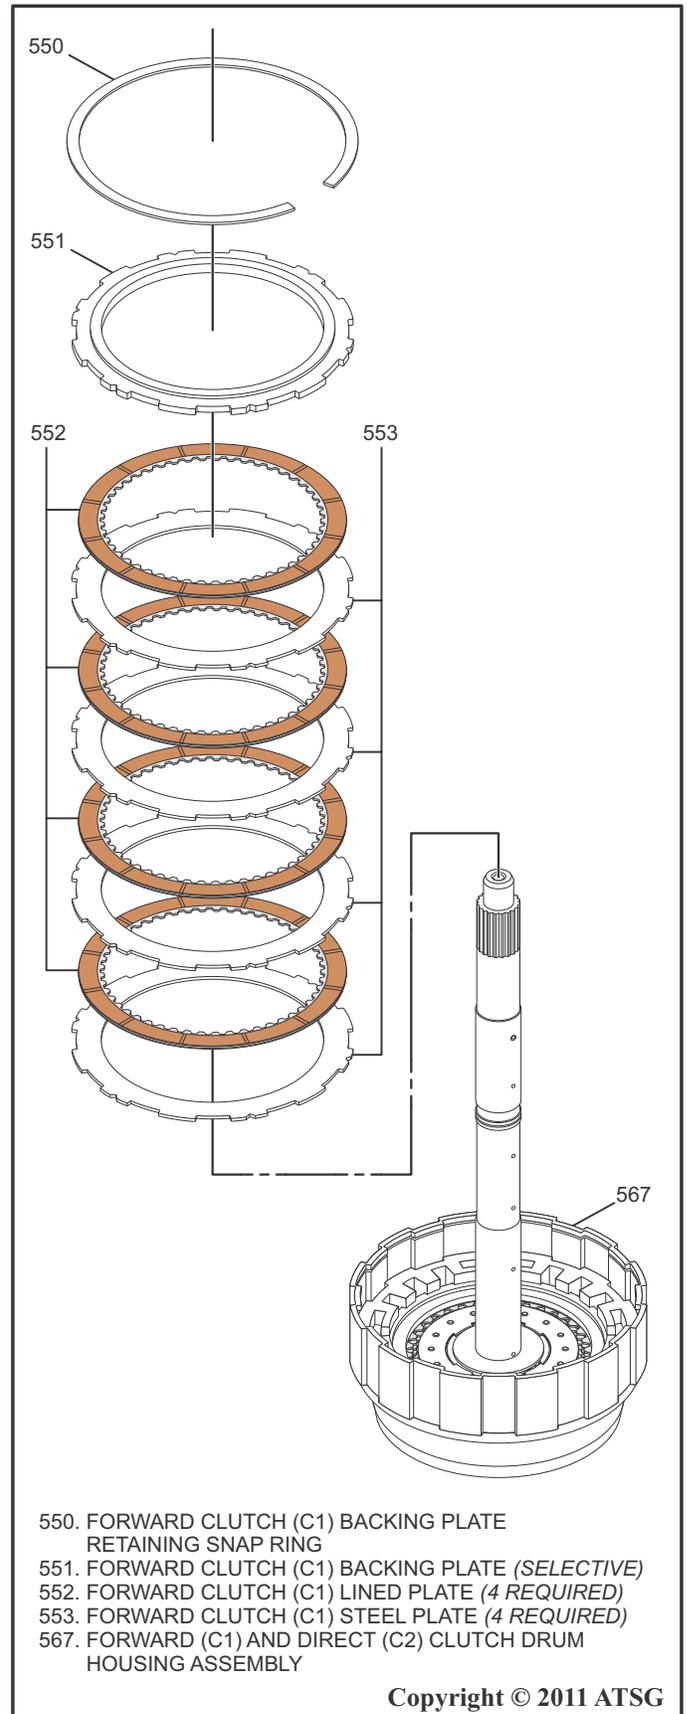

Figure 124
18. Starting with a Steel Plate and alternating Steel Plates and Lined Plates, install the Forward Clutch (C1) Steel and Lined Plates into the drum as shown in Figure 124.
19. Install the Forward Clutch (C1) Backing Plate into the drum as shown in Figure 124.
20. Install the Forward Clutch (C1) Backing Plate Retaining Snap Ring into the drum as shown in Figure 124.